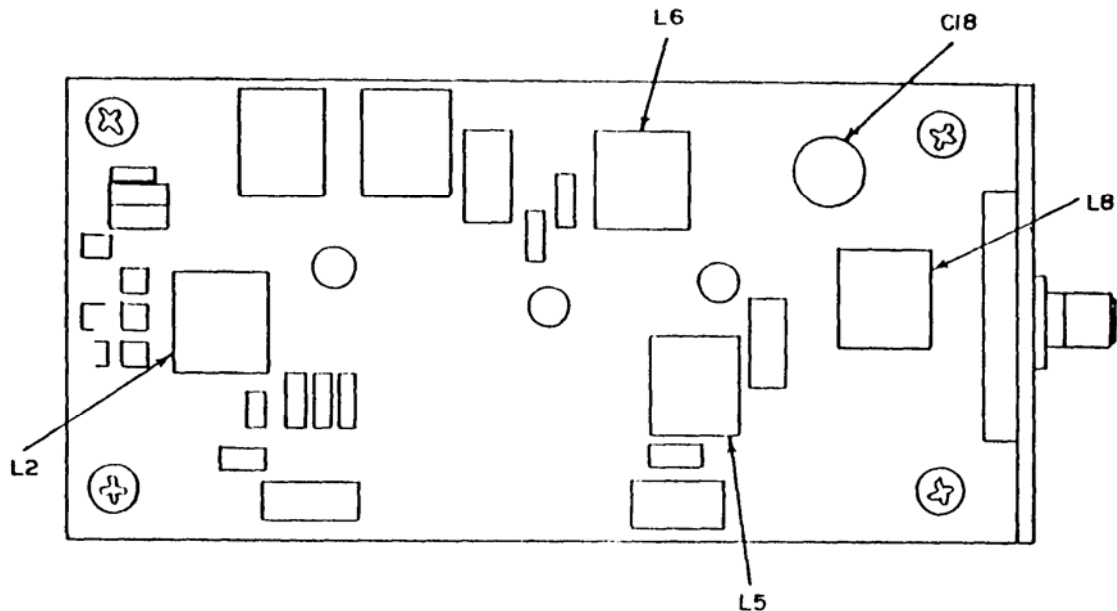

Figure 4. Adjustment locations – A1 through A5 boards.
(1) Adjust A5L2 (fig. 4) for frequency counter indication of 108.0000 MHz (R).
(2) Adjust A5L2 (fig. 4) for frequency counter indication of 108.0500 MHz. Repeat **a(2)** and (3) above for best compromise (R).
(3) Adjust A4L2 (fig. 4) for frequency counter indication of 108.1000 MHz (R).
(4) Adjust A4L2 (fig. 4) for frequency counter indication of 108.1500 MHz. Repeat **a(5)** and (6) above for best compromise (R).
(5) Adjust A3L2 (fig. 4) for frequency counter indication of 334.70000 MHz (R).
(6) Adjust A3L2 (fig. 4) for frequency counter indication of 334.55000 (334.1000) MHz. Repeat a(8) and (9) above for best compromise (R).
(7) Adjust A1L2 (fig. 4) for frequency counter indication of 75.00000 MHz (R).
(1) Adjust A1C18 (fig. 4) for indication greater than -20 dBm. If indication is less than -20 dBm, adjust A1C18 for maximum indication and then adjust A1L8 (fig. 4) for indication greater than -20 dBm (R).
(2) Adjust A5C18 (fig. 4) for indication greater than -10 dBm. If indication is less than -10 dBm, adjust A5C18 for maximum indication and then adjust A5L8 (fig. 4) for indication greater than -10 dBm (R).
(3) Adjust A4C18 (fig. 4) for indication greater than -10 dBm. If indication is less than -10 dBm, adjust A4C18 for maximum indication and then adjust A4L8 (fig. 4) for indication greater than -10 dBm (R).
(4) Adjust A3C18 (fig. 4) for indication greater than -20 dBm. If indication is less than -20 dBm, adjust A3C18 for maximum indication and then adjust A3L8 (fig. 4) for indication greater than -20 dBm (R).
(4) Disconnect equipment setup and reconnect audio analyzer to measuring receiver modulation output. Measure distortion. If distortion is still high, adjust A5L5 and A5L6 (fig. 4) for minimum distortion (R).
If A5L5 and A5L6 (fig. 4) were adjusted, recheck paragraph **15a(4)** above VOR RF level.